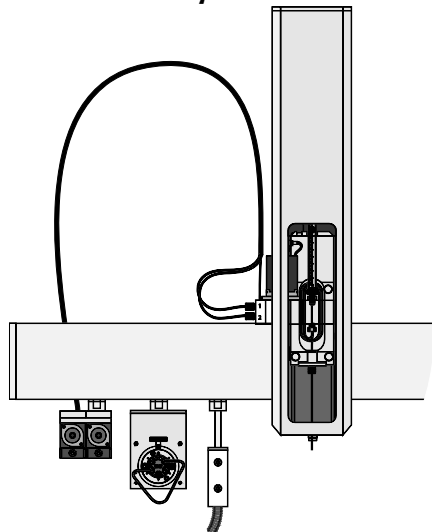
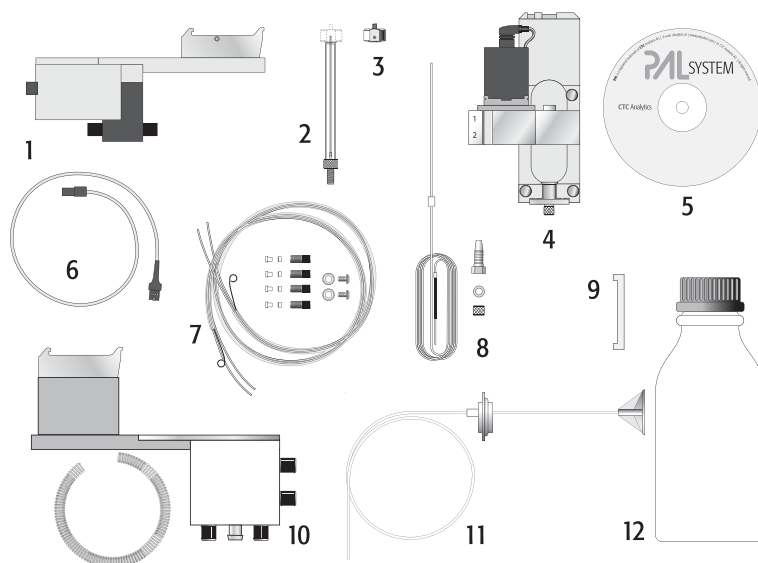

Figure 1. PAL DLW-2 Option General System Overview
Figure 2. PAL DLW-2 Option Components.
- Figure 1. PAL DLW Option General System Overview
Please refer to Figure 1 for an overview of how the various DLW-2 components shown in Figure 2 are mounted on the PAL System.